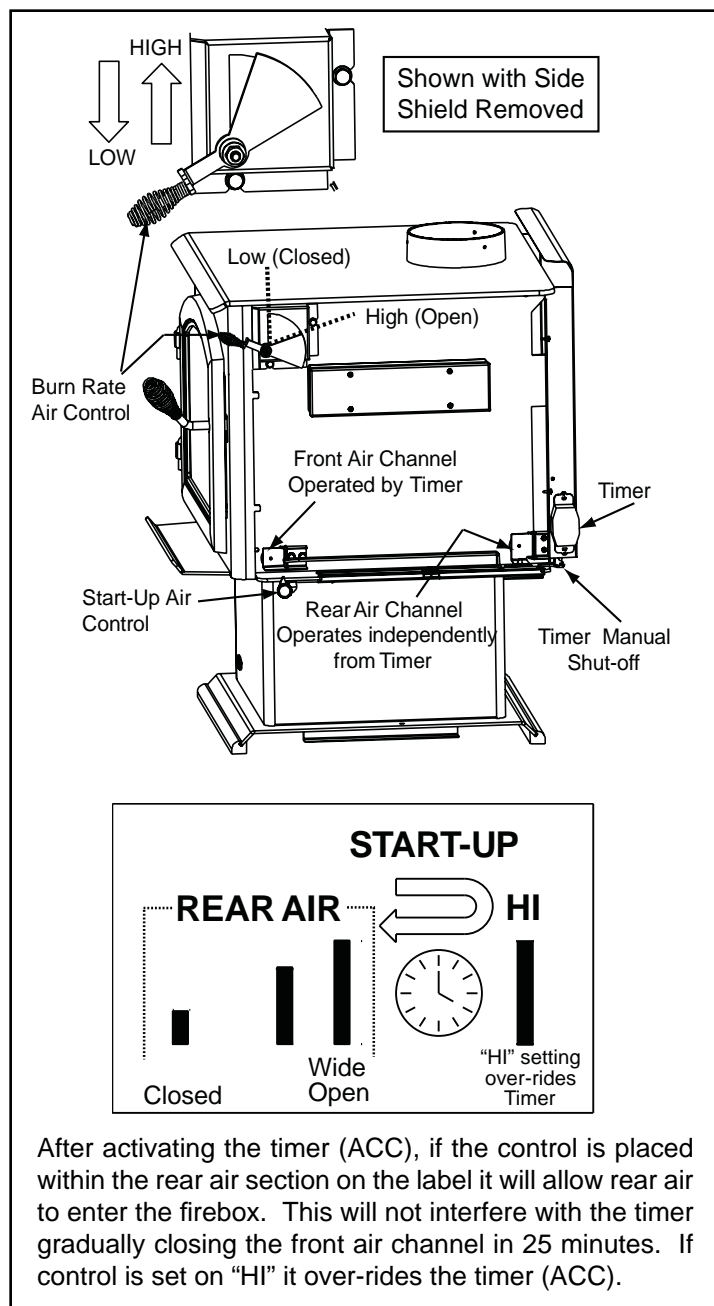

Figure 28.1
This air supply enters at the upper front of the firebox, near the top of the glass door. This preheated air supplies the necessary fresh oxygen to mix with the unburned gases, helping to create second, third and fourth combustions. This air is regulated by the Burn Rate Air Control. There are four settings High, Medium-High, Medium-Low and Low. When the control is raised all the way up it is on the High setting and when pushed all the way down it is on the Low setting. **Figure 28.1.**
1. This appliance has a timer system (ACC) that operates the stove at its maximum efficiency removing any guess work for the homeowner. Follow the instructions below for each burn rate for the Start-Up Air Control and Burn Rate Air Control. **Figure 28.1.**